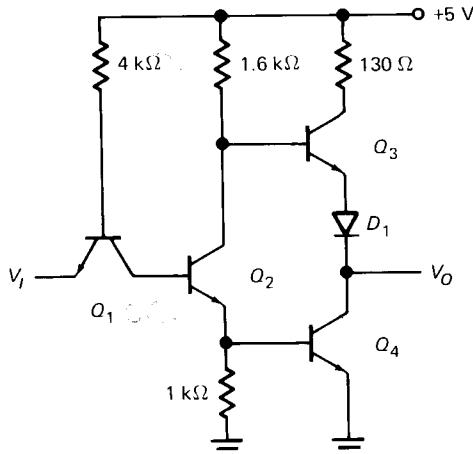

Fig. 4-21
- 4-1. In Fig. 4-21 a grounded input means that almost the entire supply voltage appears across the 4-kΩ resistor. Allowing 0.7 V for the emitter-base voltage of Q_1 , how much input emitter current is there with a grounded input? The supply voltage can be as high as 5.25 V and the 4-kΩ resistance can be as low as 3.28 kΩ. What is the input emitter current in this case?